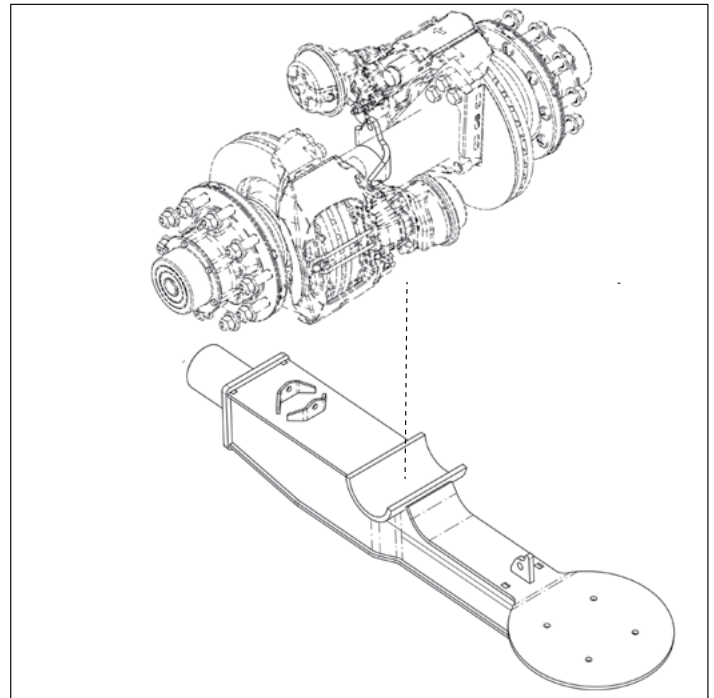

Figure 1.
1. Center the axle assembly on the beam center (Figure 1).